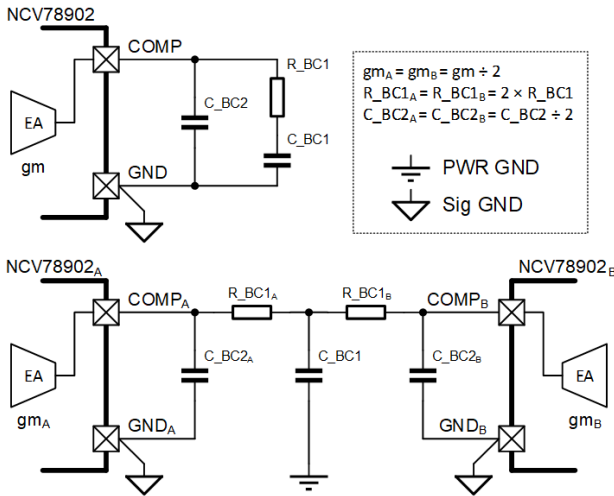

Figure 21. Compensation Network Connection for Single (Top) and Dual (Bottom) Device Operation
1. The compensation network is split between the two boosters' COMP pins according to Figure 21, to equalize the power distribution of each booster. For the best noise rejection, the compensation network area has to be surrounded by the GND plane. Please refer to the PCB Layout recommendations section for more general advices.